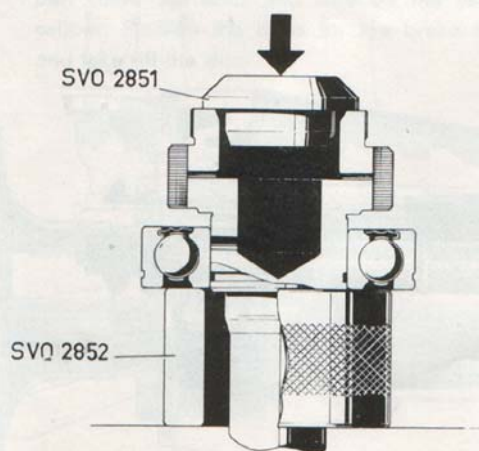

Fig. 4-13. Fitting the ball bearing on input shaft
1. Press the oil seal into the front cover with drift SVO 2851 + 1801. Press the ball bearing on the input shaft with the help of the cushioning ring SVO 2852 and drift SVO 2851, see Fig. 4-13. Try out a circlip which fits the groove well and fit it.